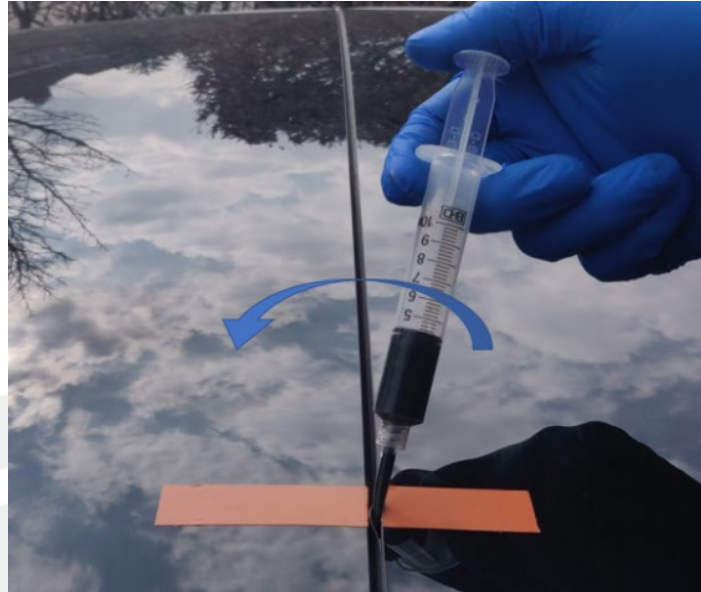

Figure 12
11. Inject 4 cc of sealant, pointing the nozzle slightly forward and backward (Figure 12) to ensure an even spread of the sealant.